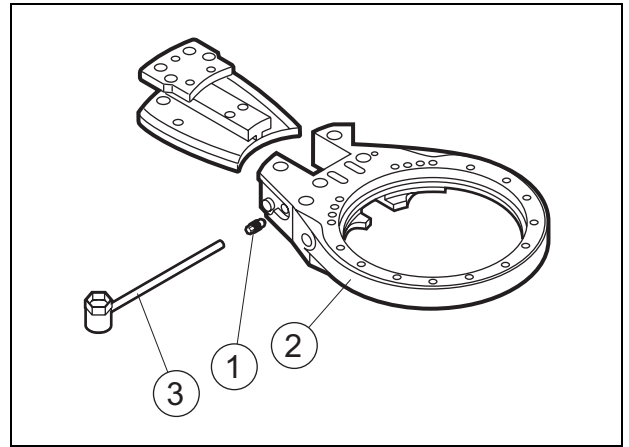

Fig. 37 Bleeding chain tension system
4. Tip the unit backwards as far as possible so that the bleeder valve (1) is as high as possible in relation to the tension pistons.
5. Open the bleeder valve (1) 1- 2 turns.
Use the tool P/N 0704040, (3) *See Fig. 37.*
6. Close the bleeder valve(1) when the oil appearing from the valve is clear from air. Repeat this process after about 30 minutes of operation.